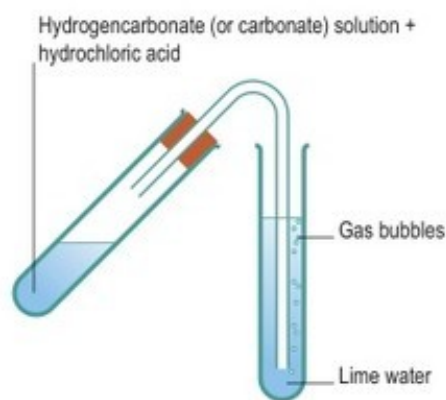

Figure 11.27
- 2 A white precipitate indicates the presence of sulfate or sulfite ions (Figure 11.27).